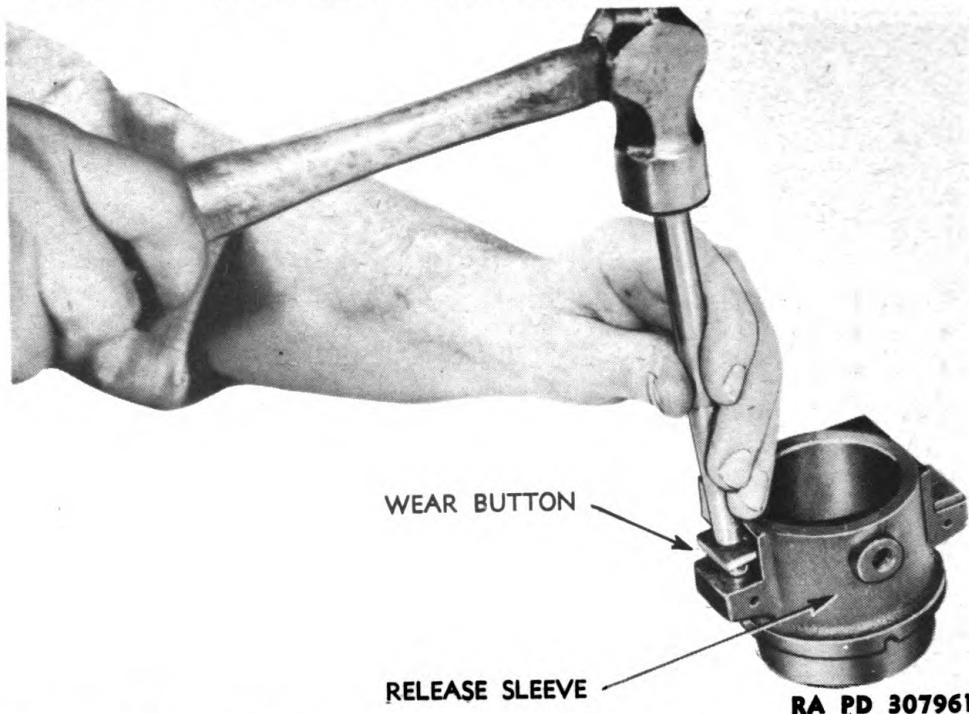

Figure 154 — Installing Wear Buttons in Clutch Release Sleeve
(1) DISASSEMBLE RELEASE SLEEVE AND BEARING ASSEMBLY. Unscrew release bearing lubricating tube from elbow in sleeve. Press bearing out of release sleeve. Drive or press wear buttons (fig. 154) from sleeve if they are to be replaced.
(3) ASSEMBLE RELEASE SLEEVE AND BEARING ASSEMBLY. Tap wear buttons into sides of release sleeve (fig. 154). Press release